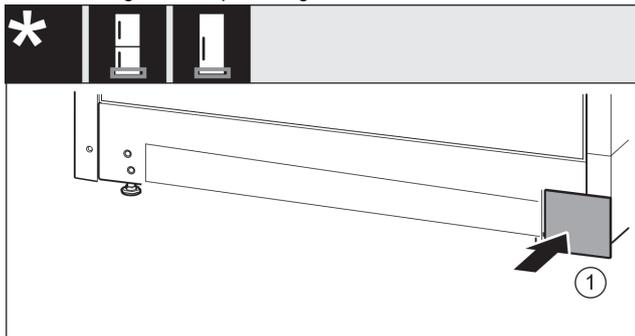

Fig. 18
- ▶ Re-attach the cover Fig. 18 (1) to the other side.